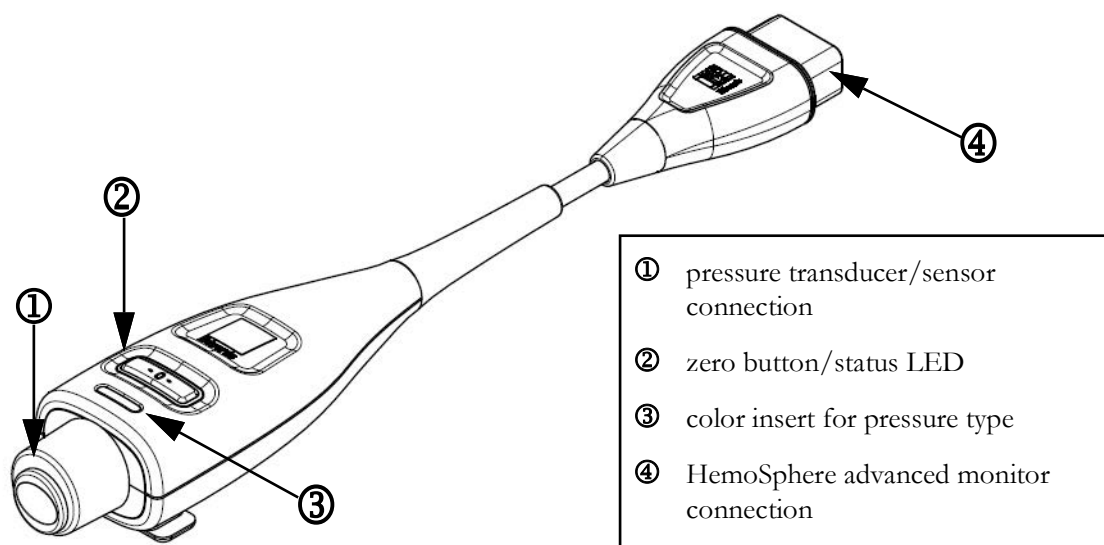

Figure 10-1 HemoSphere pressure cable
The HemoSphere pressure cable is a reusable device that connects with the HemoSphere monitor on one end ④ and any approved single Edwards disposable pressure transducer (DPT) or sensor on the other end ①. See figure 10-1 on page 188. The HemoSphere pressure cable acquires and processes a single pressure signal from a compatible Edwards DPT, such as the TruWave DPT, or a FloTrac sensor. A FloTrac, FloTrac Jr, or Acumen IQ sensor connects to an existing arterial catheter to provide minimally-invasive hemodynamic parameters. A TruWave transducer can connect to any compatible pressure monitoring catheter to provide location based intravascular pressure. Refer to the directions for use provided with each catheter for specific instructions on catheter placement and use, and for relevant warnings, cautions and notes. The HemoSphere pressure cable can be monitored through two technology monitoring modes based on the paired sensor/transducer: FloTrac, FloTrac Jr, or Acumen IQ sensor monitoring mode or Swan-Ganz catheter monitoring mode. The monitoring mode appears on the top of the navigation bar (see figure 5-2 on page 98). The appearance and connection points for the HemoSphere pressure cable are shown in figure 10-1.
Pressure Type Color Insert. If desired, the appropriate color insert can be used on the pressure cable to indicate the monitored pressure type. See ③ in figure 10-1 below. The colors are as follows:
- Red for arterial pressure (AP)
- Green for cardiac output (CO)
- 7 Use a straight in or out motion to connect the green connector of the primed FloTrac/FloTrac Jr sensor. The pressure cable LED that surrounds the zero button (see ② in figure 10-1) will flash green indicating that the pressure sensor is detected. A yellow light indicates a fault condition. If this occurs refer to the status bar for specific fault condition details.
Press the physical zero button  directly on the pressure cable and hold for three seconds (see figure 10-1).